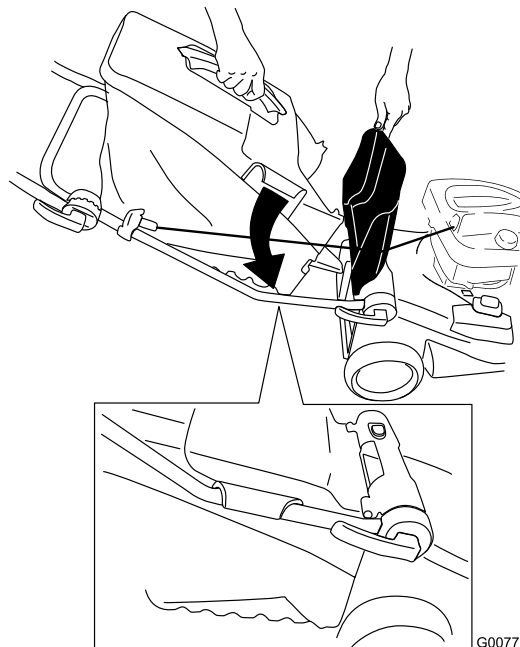

Figure 18
2. Raise and hold up the rear door, install the bag on the handle, and lower the rear door (Figure 18).